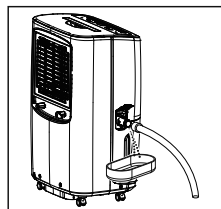

fig. 9
- f. When you want to remove the garden hose, prepare a drip tray (not supplied) to collect the water from the nozzle.(fig.9)